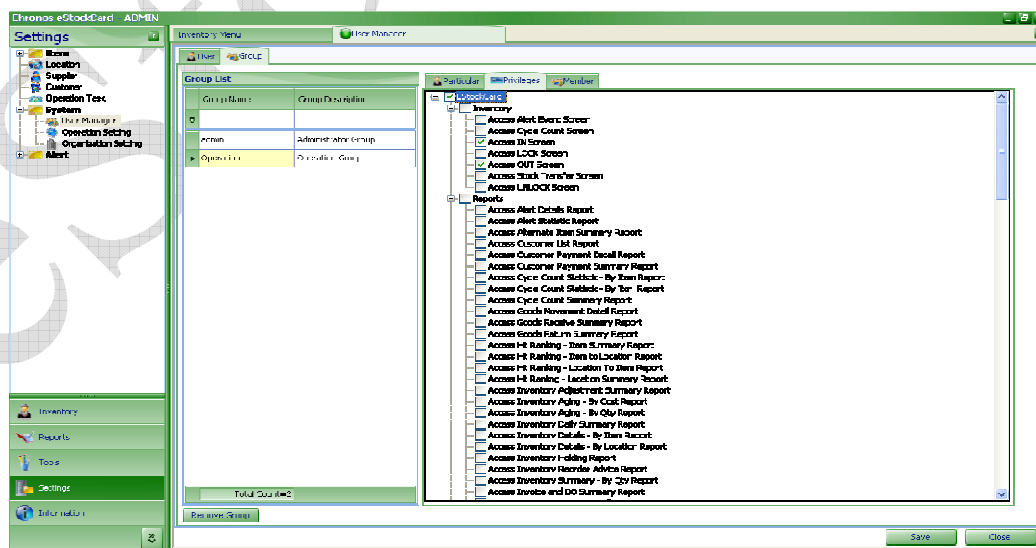

Fig. 10
- Step 5 Now, you have to assign which configure certain operation privileges to this newly created group. Select “Group > Privileges” from drop down. Tick any operation privilege you want, multiple selections to any module can be made. To ause IN & OUT only, just tick “Access IN” and “Access OUT” Screen and Save it. (Fig.10)